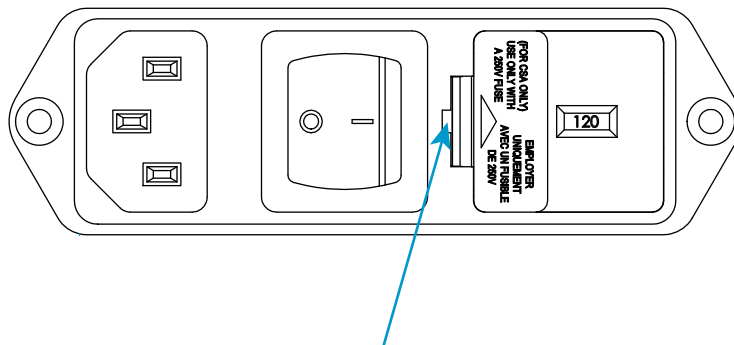

Figure 5. Prying out the fuse holder
1. Ensure that the power switch is in the Off (0) position and disconnect the power cable from the power source. Verify that no LEDs are illuminated on the frame control panel.
2. Insert a small flat-head screwdriver into the slot indicated in Figure 5 on page 37 and pry out the fuse holder.